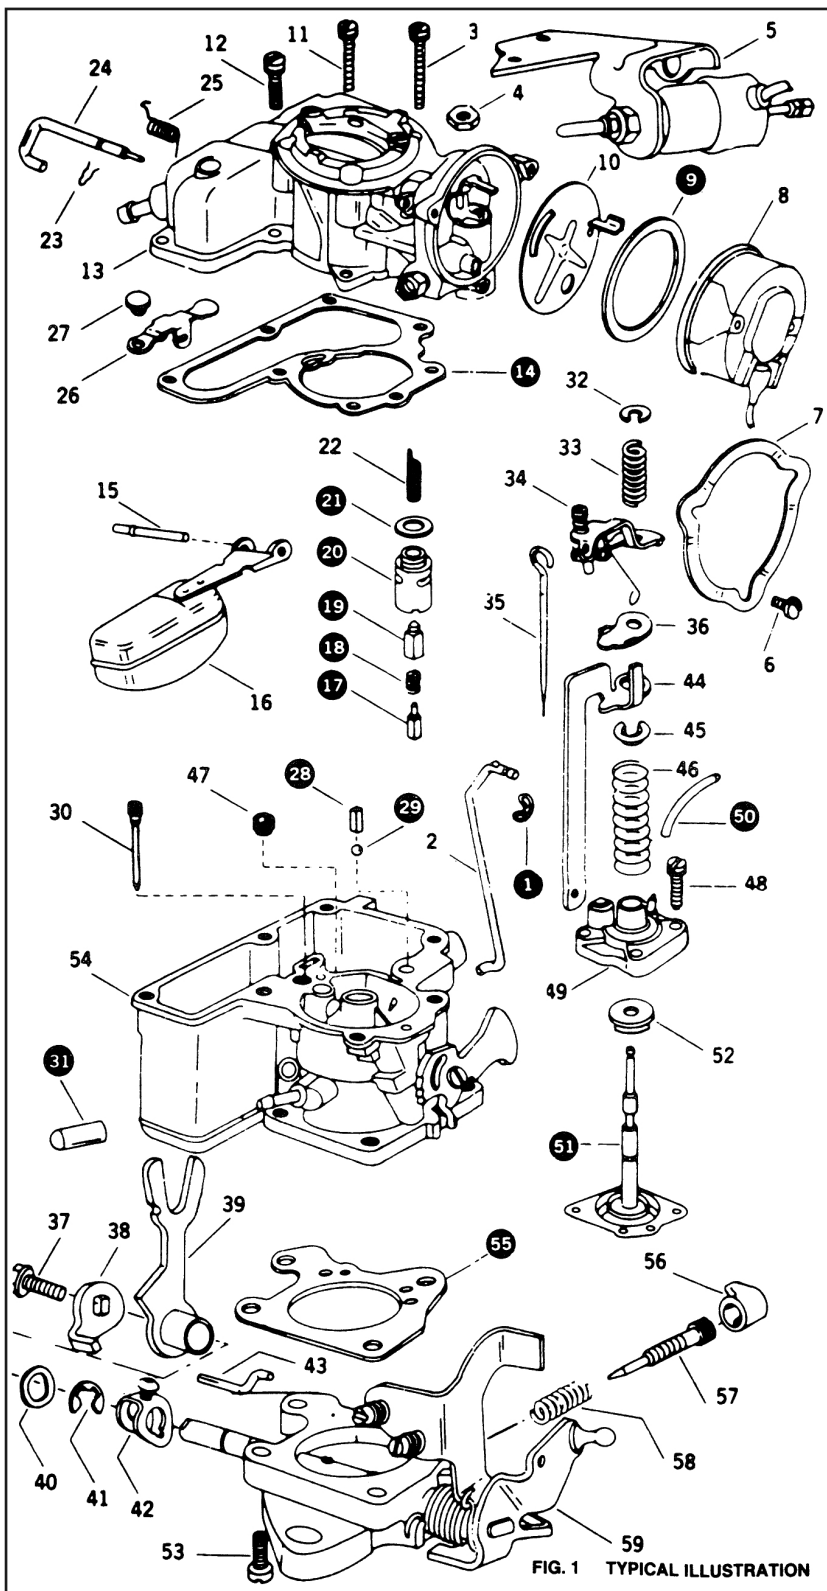

FIG. 1 TYPICAL ILLUSTRATION
Perform the following disassembly procedures as outlined below using the Exploded View (Fig. 1) and parts list as a guide. Disassemble only to the extent necessary to permit thorough cleaning and inspection of parts.
Reverse the numerical sequence to reassemble carburetor using reference numbers as a guide. Also refer to index call out numbers for proper location and position of parts as shown in Exploded View (Fig. 1).
4. Assemble the following outside carburetor: Position pump cover (Fig. 1,49) over pump diaphragm (51). Match up screw holes and insert screws. **NOTE:** Exercise care not to damage rubber diaphragm. When installing unit into fuel bowl, be sure to tighten screws down evenly.
With airhorn and gasket removed, close throttle plate tight in bore by backing off idle speed screw. Push down on pump diaphragm shaft until it bottoms. To adjust metering rod, maintain pump diaphragm shaft in this position while backing out metering rod adjusting screw until rod bottoms in metering well. Then turn adjusting screw in (clockwise) one turn for final adjustment. Alternate method: Repeat above procedures to where rod bottoms in metering well, then turn adjusting screw in (clockwise) until it contacts lifter (Fig. 1,44) or anti-rock plate (36). Next, add one additional turn for final adjustment.